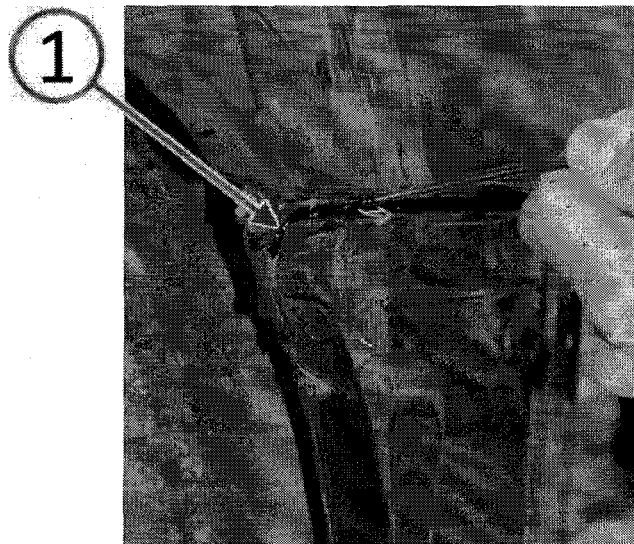
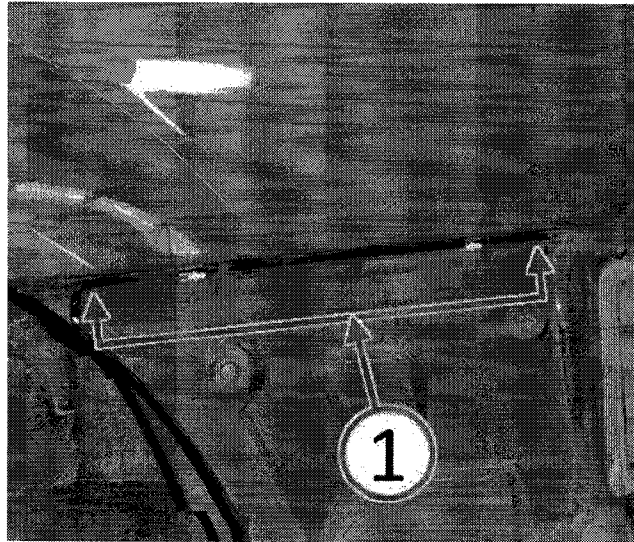

Fig. 3 Apply Sealer Into Back Of Slot
Fig. 4 Apply Sealer To Entire Length Of Slot
5. Use the extension tube to apply Kent® Spray Leak Check sealer into the entire length of the left side fascia support flange (Fig. 3) and (Fig. 4).